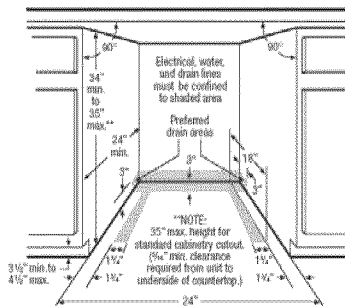

Figure 2
IMPORTANT: For proper operation and appearance of unit, cabinet opening should have dimensions as shown in Figure 2. If unit is to be placed in a corner, there must be at least a 2-inch side clearance to open door.
Electrical, water, and drain lines must be confined to shaded areas in Figure 2.
1. Review dimensions in Figure 2 to locate dishwasher's drain, water, and electrical connections.
2. All utilities must be routed in shaded area in the Figure 2.
3. Cut access holes for the Electrical, Water and Drain hoses in the shaded areas as shown in Figure 2.